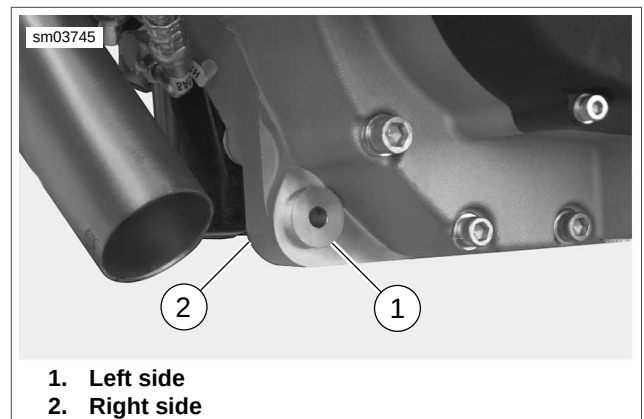

Figure 3-28. Front Exhaust Mount Bushings (2 piece)
- d. See Figure 3-28. Install aluminum bushings in front exhaust mount.